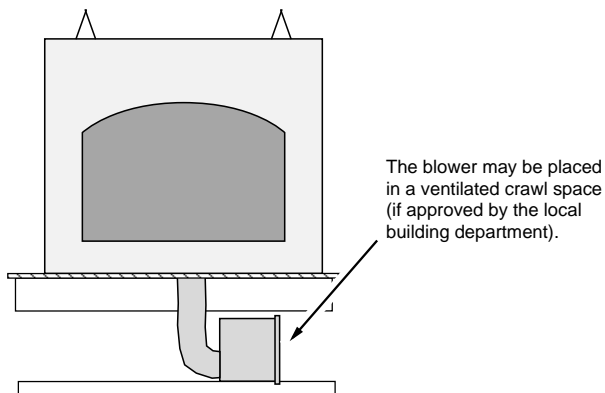

Figure 15
- The blower may be installed to draw air from a crawl space or attic if approved by local building codes (see Figure 15). **NOTE:** certain codes require a fire curtain in these cases.